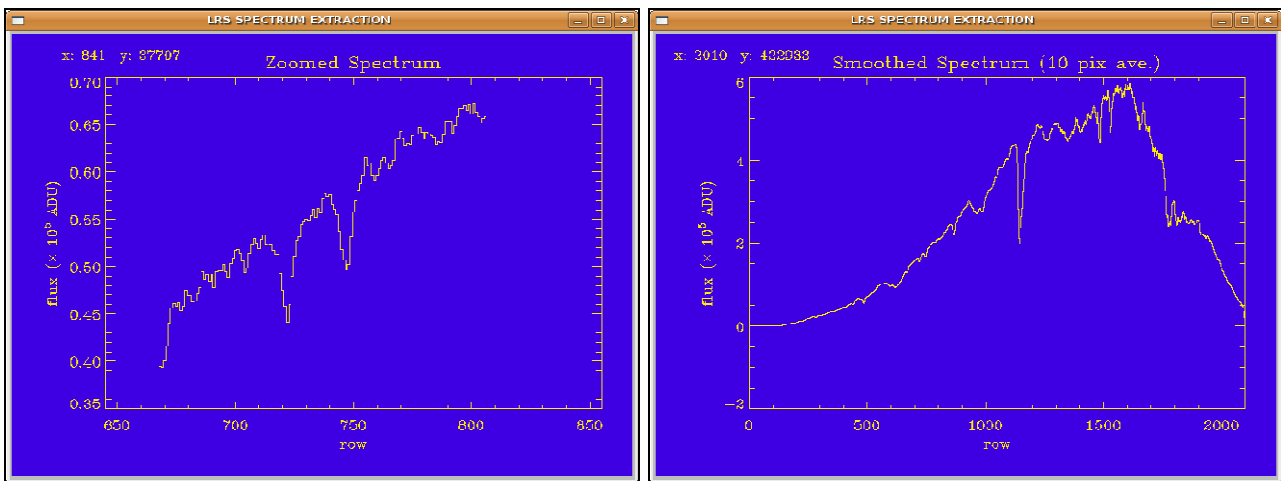

**Figure 33. The extracted spectrum**
4. Extraction of the spectrum: the spectrum is extracted and the results are displayed on the graphic window (see Figure 33). Along the x axis rows are displayed while on the y axis the flux in ADU is displayed.